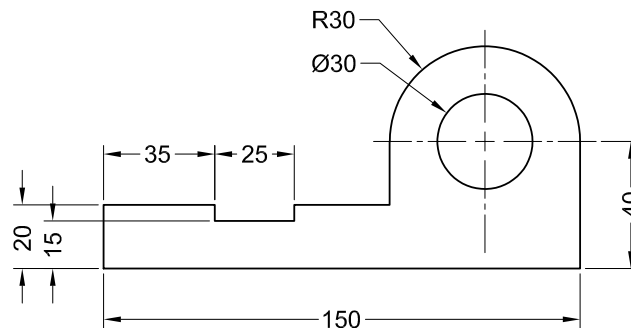

Figure 19-40 Sketch for Tutorial 1
In this tutorial, you will open the sketch created in Tutorial 3 of Chapter 2, add dimensions to the sketch, as shown in Figure 19-40, and extrude the sketch up to a depth of **50** mm. Then, you will add equations to the dimensions of the sketch. The dimension **150** will be the driving dimension. While adding equations, you can change the vertical dimensions **20** and **40** to **25** and **50**, respectively, for the convenience of calculation.
2. Add relations and dimensions to fully define the sketch, refer to Figure 19-40.